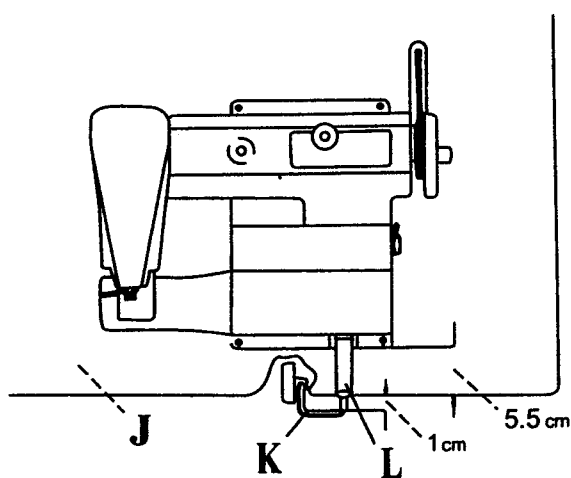
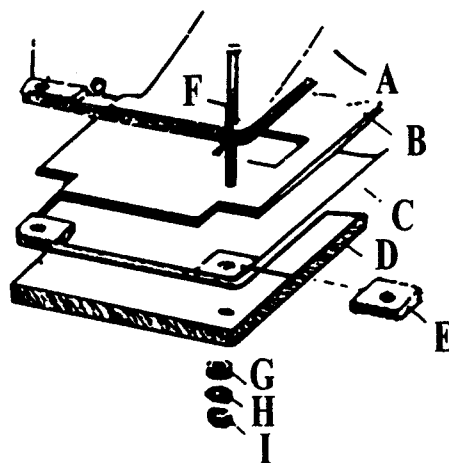

Fig.2
Fig.1
## 二、Fitting machine head(Fig.1、 Fig.2)
①Put pads "A", "B", "C", "D", "E" onto the table in order as shown in fig1. Insert four hexagon head bolts with small head "F" into the holes. After putting on washers "G" and "H", put on hexag nuts "I", tighten the four nuts diagonally, and fix the machine head on the table.
②Connect front end of long shaft with knee lifter "K" and sleeve "L". When the crossbar of knee lifter is 1cm distant from the front end of table "J", fix the sleeve.
③Put on "V" belt "N", move the motor leftwards or rightwards so as to fix the motor under the sewing table after making the motor pulley in alignment with handwheel. Regulate the motor's height in order to make the belt in an appropriate state of tightness.
④First fix the motor switch at the bottom right place of the front end of sewing table for the convenience of operation, and then turn on the power.